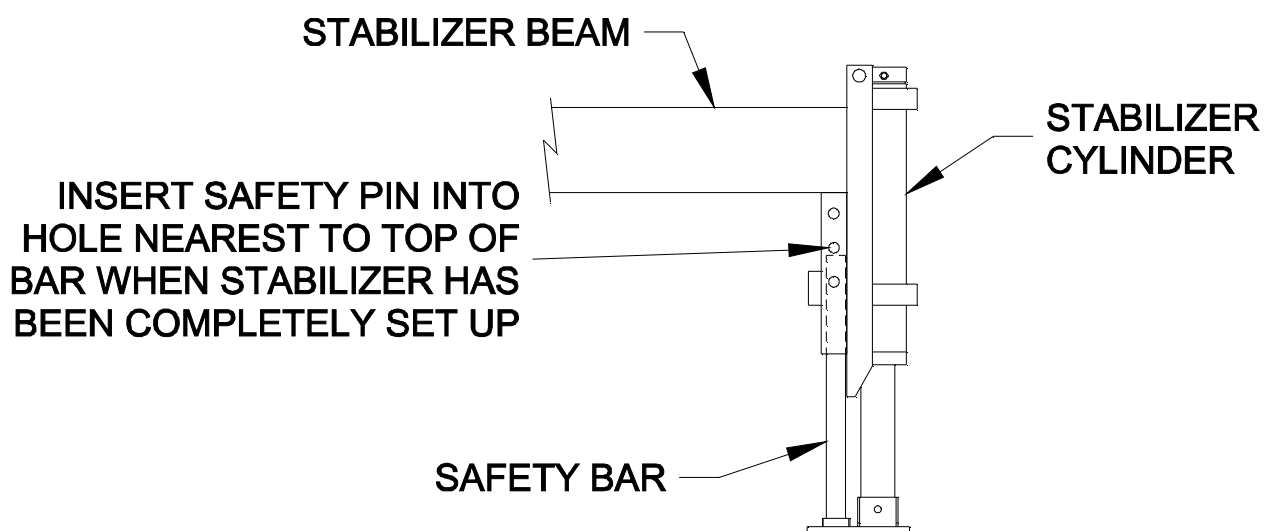

Figure 2
15. Insert both safety pins into their appropriate holes just behind the front jack stabilizer cylinders. (See fig. 2)